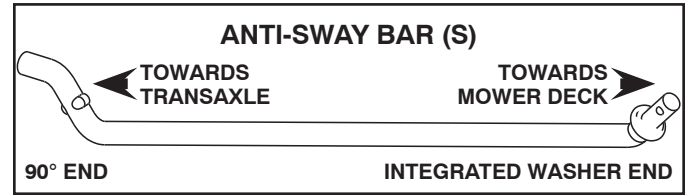

Fig. 25
## 5. INSTALL ANTI-SWAY BAR (S) (IF EQUIPPED) (See Fig. 25- 27)